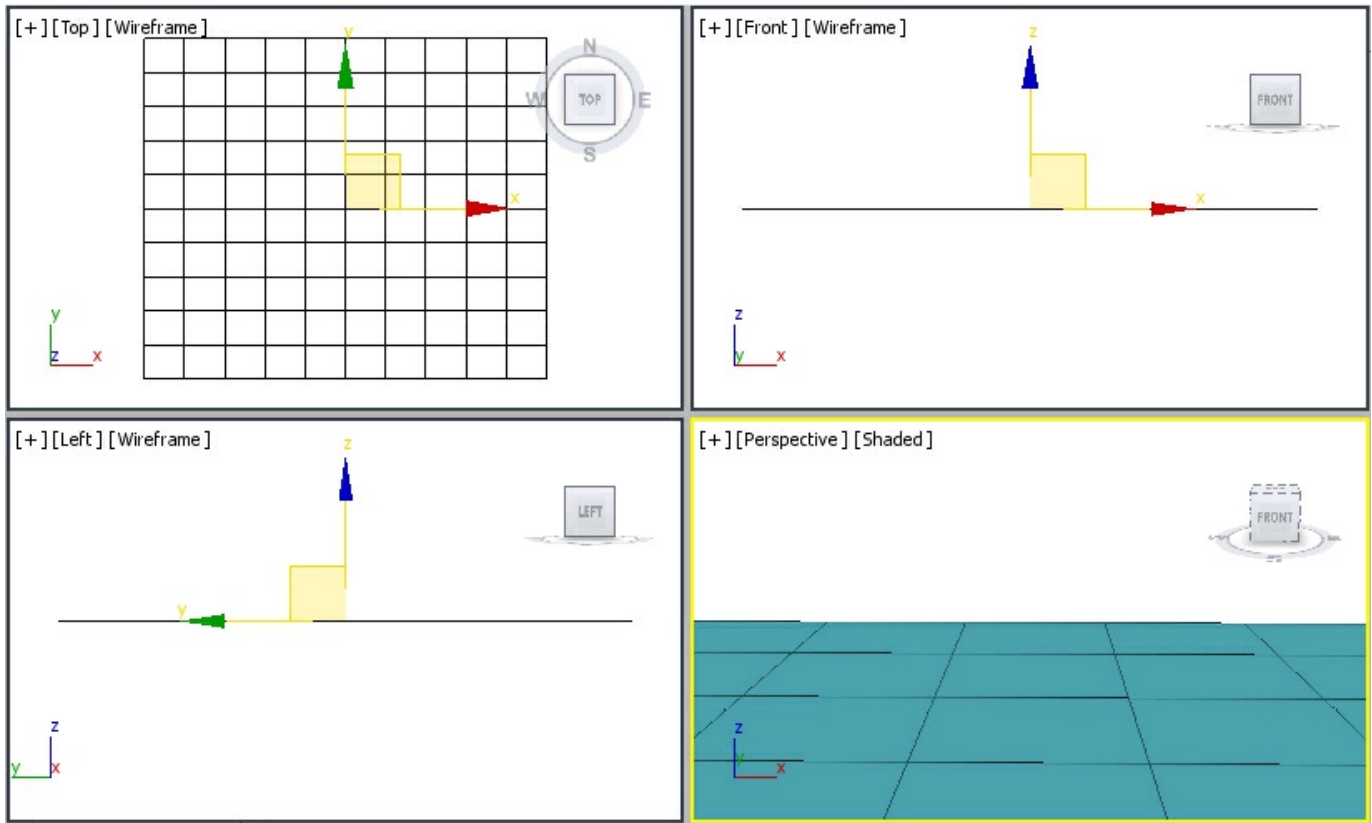

Figure 12-87 The water surface in viewports
5. Activate the Perspective viewport and set its view using the **Orbit** and **Zoom** tools, as shown in Figure 12-87.